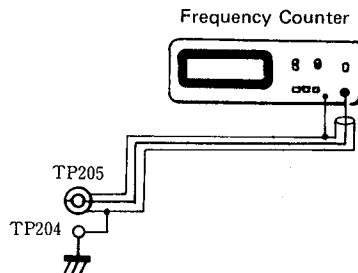

Figure 12
- (1) Connect the frequency counter to TP205 (CLK) and TP204. (Figure 12)
- (2) Remove wire connector W201, turn the power switch on, and short-circuit TP201 and TP202.
- (3) Rotate the L201 core and adjust so that the frequency counter shows a value of  $4.322\text{MHz} \pm 0.005\text{MHz}$ .
- (4) After adjusting, turn the power off and connect the W201 wire connector.